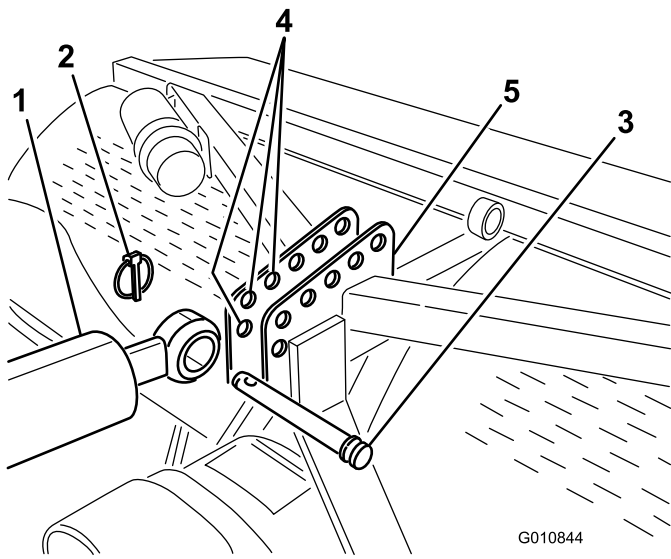

Figure 6
7. Secure the rod end of hydraulic top link to the most forward hole possible in the aerator bracket with link pin and lynch pin (Figure 6).